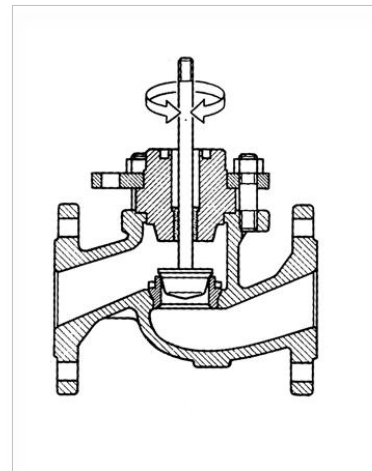

Figure 4: Lapping plug into seat ring
3. Lap plug into seat ring (Figure 4) to obtain good seating surfaces on both. Do not remove too much metal. Stop lapping after seating surfaces of 1/32 inch (0,8 mm) wide has been obtained in seating of plug. Check the correct seating of the plug.